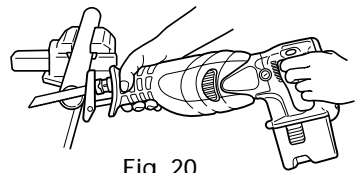

Fig. 20
(1) Fasten a workpiece firmly before operation. (Fig. 20)
(2) When cutting metallic materials, use proper machine oil (turbine oil, etc.). When not using liquid machine oil, apply grease over the workpiece.